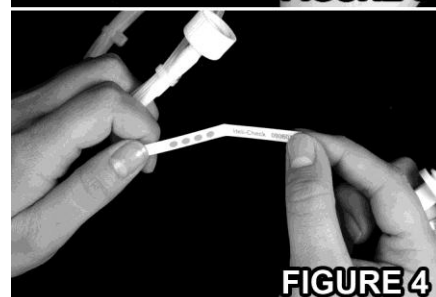

FIGURE 4
8. Open the indicator capsule and remove the Heli-Check monitor. Read the results. (Figure 4)